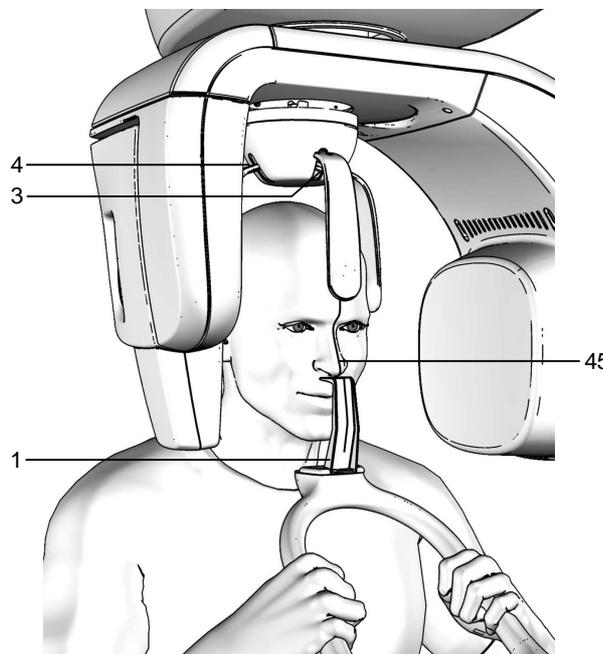

Figure 17 – TMJ closed mouth positioning
4. Position the patient with the temple clasps (Figure 17) asking him to place his hands on the front support.
6. Press the key "Centring devices ON" (14). Two laser beams will light up the sagittal medial plane line and the horizontal line for the Frankfurt plane reference (the plane that identifies a line that ideally links the ear hole - the auditory meatus - with the lower part of the orbital fossa). Using as reference the sagittale medial plane laser, position the patient's head in such a way that the sagittal medial plane is lit by the corresponding laser beam as in Figure 17. The reference of the Frankfurt plane can be used to make sure the head of the patient is remaining in the same position when examination is taken with either open or closed mouth.